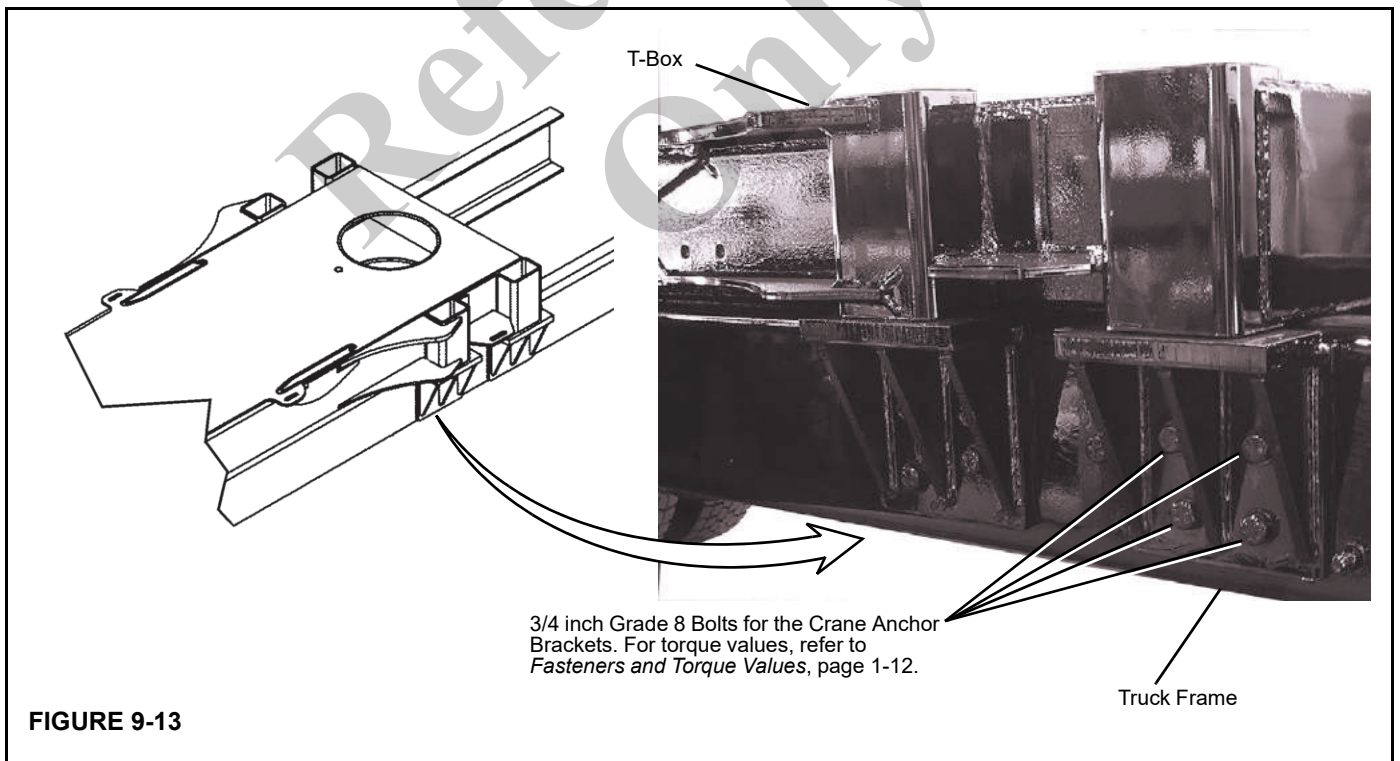

FIGURE 9-13
5. Bolt the anchor brackets to the truck frame as shown in Figure 9-13. Torque to recommended values in *Fasteners and Torque Values*, page 1-12.